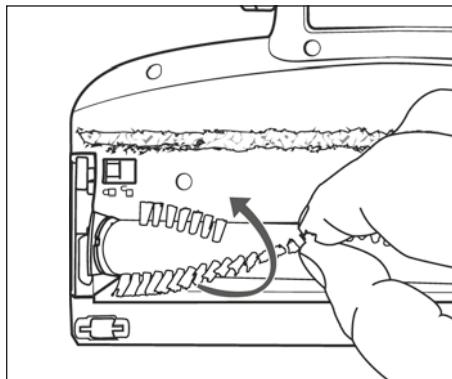

Fig. 25
- 3) Pull the rotary brush ②1 out of the floor brush ②2 by the bristles. Turn the rotary brush ②1 slightly to make it easier to remove (see Fig. 25).